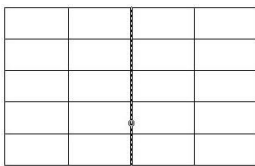

Fig 19
2. Specify the line of the table for dragging. (Fig19)